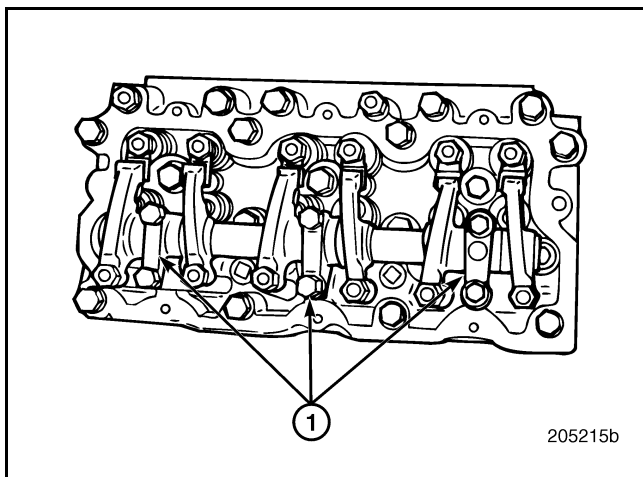

Figure 290 — Valve Rocker Arm Installation
5. Lubricate the threads of the rocker arm mounting capscrews with clean engine oil. Install the capscrews and tighten to the specified torque, 40 lb-ft (54 N•m), using torque wrench J 24407, or equivalent. Refer to Figure 290.